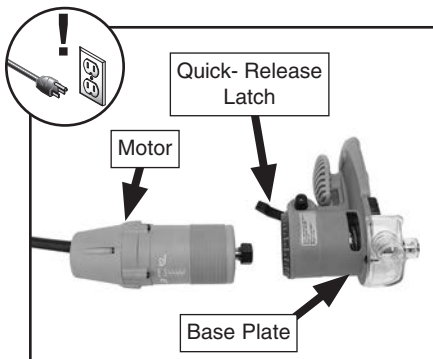

Figure 8. Base plate separated from motor.
2. Loosen quick-release latch, then rotate base plate assembly counterclockwise until motor and base plate are separated (see **Figure 8**).